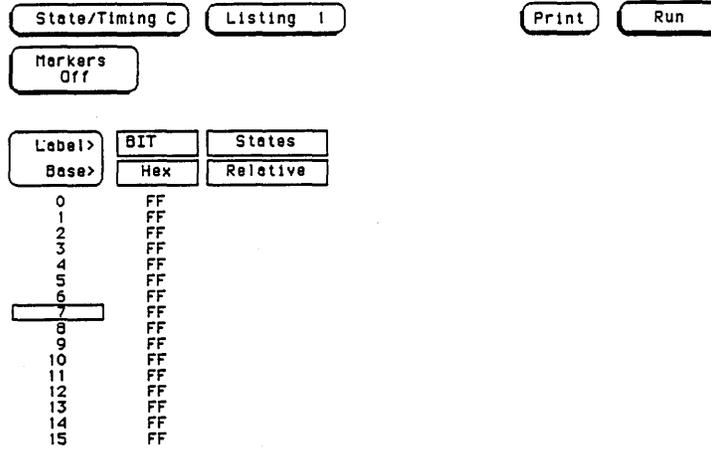

Figure 3-7. Listing Screen
6. Touch **Run**. The **Listing** screen will be displayed and will show F's for the channels under test. See figure 3-7.